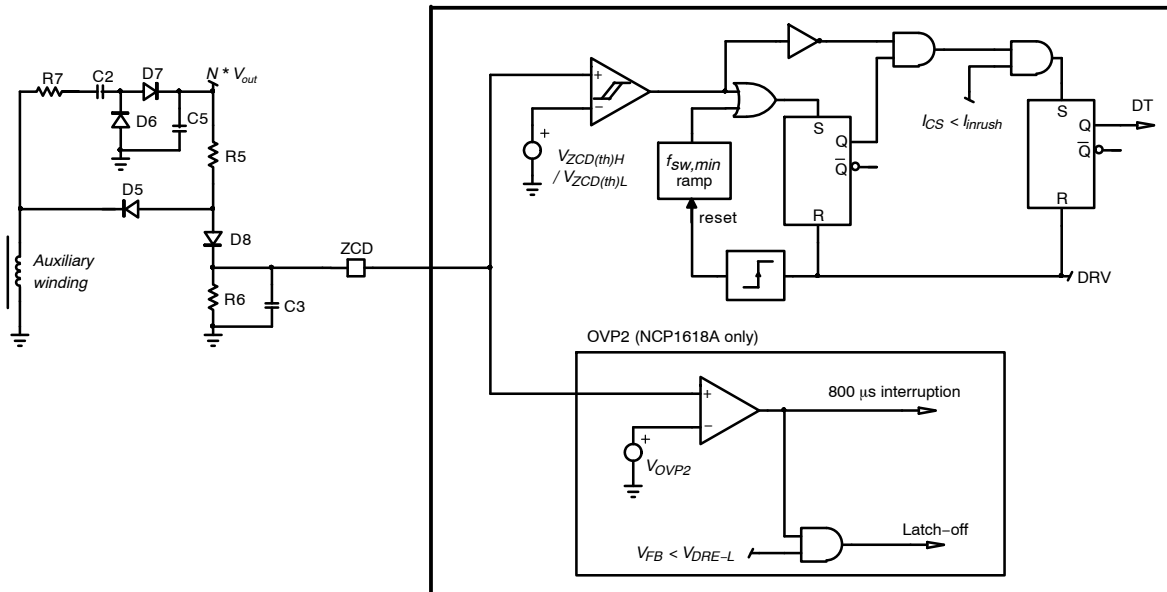

Figure 10. Zero Current Detection Block
Application note AND90011 discusses recommended circuitries for an accurate ZCD and OVP2 detections. Figure 10 provides one of these circuitries. In this circuit, R_7 being small, capacitor C_2 is charged to
Figure 10 shows how the NCP1618 detects the valley. An internal comparator detects when ZCD pin voltage exceeds an upper threshold V_{ZCDH} (1 V typically). When this is the case, the inductor core is resetting and the ZCD latch is set. This latch will be reset when the next driver pulse occurs. Hence the output of the latch remains high during the whole off-time (demagnetization time + any possible dead time). The output of the comparator is also inverted to form
- The ZCD pin impedance (for instance R_3 of Figure 10), must be higher than $7.5\text{ k}\Omega$ not to trigger the ZCD pin short-to-ground protection.
If no ZCD can be detected when the circuit operates in FCCrM mode, the circuit cannot use the valley detection to start a new current cycle. In this case, the next DRV pulse is forced by the DCM minimum frequency ramp ($f_{sw,min}$ ramp of Figure 10) which acts as a watchdog.
- If the pin is grounded, no falling edge of the auxiliary winding can be detected. The DRV remains off until the DCM minimum frequency ramp initiates a new cycle. Before the new pulse is generated, the circuit senses the pin impedance by sourcing $250\text{ }\mu\text{A}$. No DRV pulses are generated until the pin voltage exceeds V_{ZCDH} . Hence, the part is inhibited when the pin is grounded. Not to trigger this protection, the pin impedance (for instance R_3 of Figure 10, must be higher than $7.5\text{ k}\Omega$).